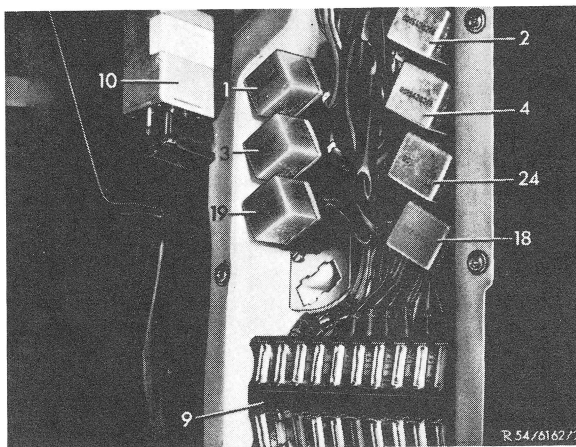

Fig. 1
2. Turning temperature switch (1) clockwise will energize fan motor (5) — via preresistor 0.7 (6) via terminal 4 on temperature switch, and warning light (2). In addition, relay (6) terminal 30/87 (except USA vehicles), and electromagnetic clutch (7) will be energized via terminal 2 of temperature switch (Fig. 1 to 3).
3. Turn four-stage fan switch (10) clockwise to increase air volume.
4. Actuation of starter will simultaneously energize relay (4) terminal 86 via terminal 50 of starter, so that circuit to electromagnetic clutch will be broken during the starting operation.
5. For max. cooling, set temperature vacuum switch (1 and 34) to position "Inside", which will change the vacuum elements (29) for ambient air flaps to ambient air by means of vacuum switch (34).